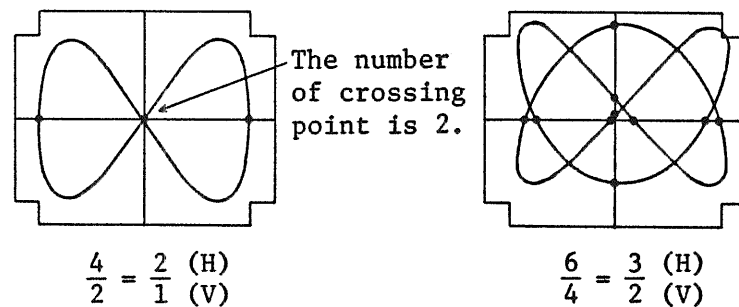

Figure 17
- o Frequency measurement with Lissajous figure (See Figures 17 and 18):
Apply to the X-axis a known frequency from a signal generator (SG) and to the Y-axis the frequency to be measured. So adjust the required controls that a pattern is displayed on the overall surface of the CRT screen. Then so adjust the frequency of the signal generator that the displayed pattern becomes stationary as shown in Figure 17. From the displayed waveform, the unknown frequency can be calculated as follows: